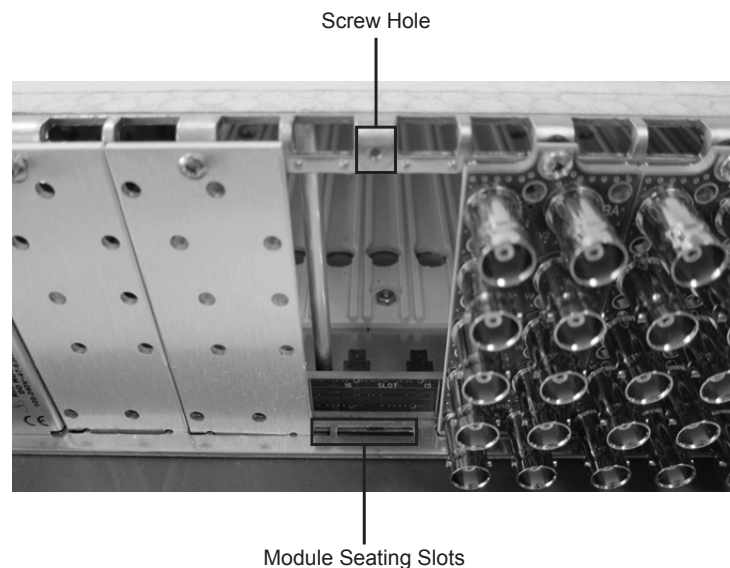

Figure 2.1 Rear Module Installation in an openGear Frame (GPI-100 not shown)
3. Install the bottom of the Rear Module in the **Module Seating Slot** at the base of the frame’s back plane. (**Figure 2.1**)